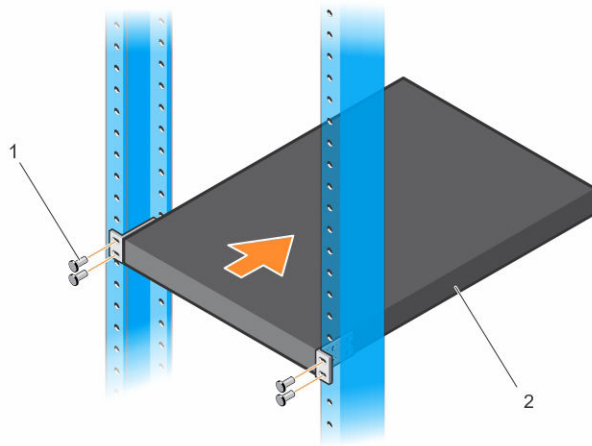

Figure 7. Mounting N20xx in 2-Post Rack
- 5 Secure the switch to the rack using the rack bolts, or cage nuts and cage-nut bolts with washers. Tighten the bolts on the bottom of each bracket flange first; then tighten the bolts on top as in item 1 in Figure 7. The rack bolts are provided with the mount brackets and the cage nuts and cage-nut bolts are provided with the rack.